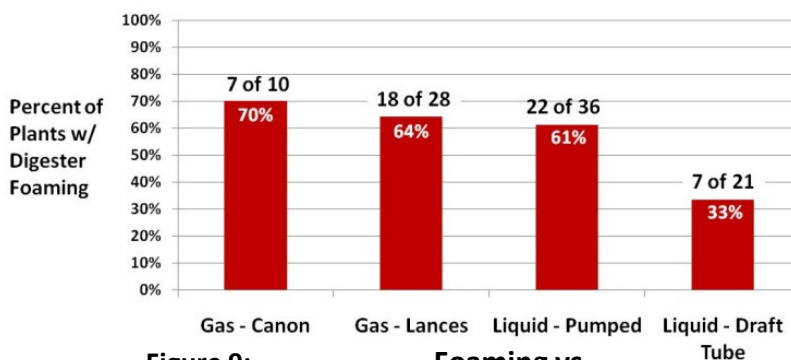

Figure 9:
- Digester mixing type appears to favor the liquid draft tube style [Figure 9].